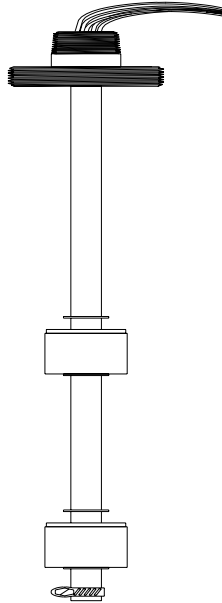

Figure 13: Typical Dual-Level Float Sensor
1. See *Figure 13*. Insert a stranded, non-insulated wire into the clamp at the bottom end of the sensor, and tighten the clamp.